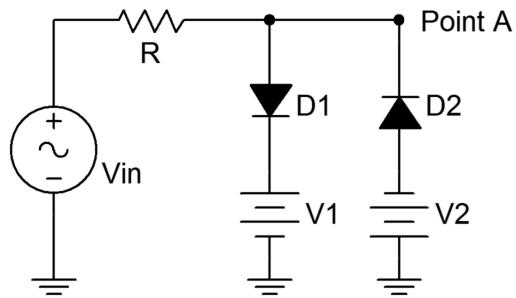

Figure 1
1. Consider the circuit of Figure 1 using $V_{in} = 5$ volts peak at 1 kHz, $R = 10 \text{ k}\Omega$, and both V_1 and V_2 set to 0 volts. For any positive signal over approximately 0.7 volts, D_1 will turn on and limit the output voltage at Point A to 0.7 volts. A similar situation occurs with D_2 and negative signals. A sine wave input over several volts will be clipped at ± 0.7 volts resulting in a squared off wave.
2. Build the circuit of Figure 1 using $R = 10 \text{ k}\Omega$, and both V_1 and V_2 set to 0 volts. Set V_{in} to a 5 volt peak sine at 1 kHz. Place one oscilloscope probe at the input and the second at Point A. Make sure the scope inputs are DC coupled. Record the positive and negative peak values of the resulting output waveform in Table 1. Also save an image of the scope showing both the input and output waveforms.